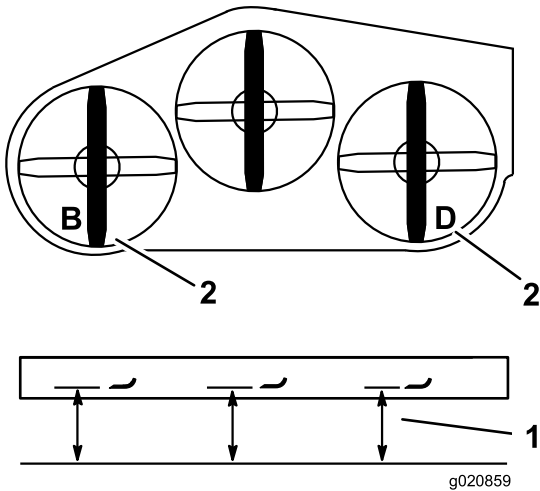

Figure 85
2. Measure the left blade at the **B** location, from a level surface to the cutting edge of the blade tip, and record this measurement (Figure 85).
3. Measure the right blade at the **D** location, from a level surface to the cutting edge of the blade tip, and record this measurement (Figure 85).
**Note:** The measurement at position **B** needs to be within 3 mm (1/8 inch) of the measurement at position **D**. (Figure 85). If it is not correct, proceed to the following steps.